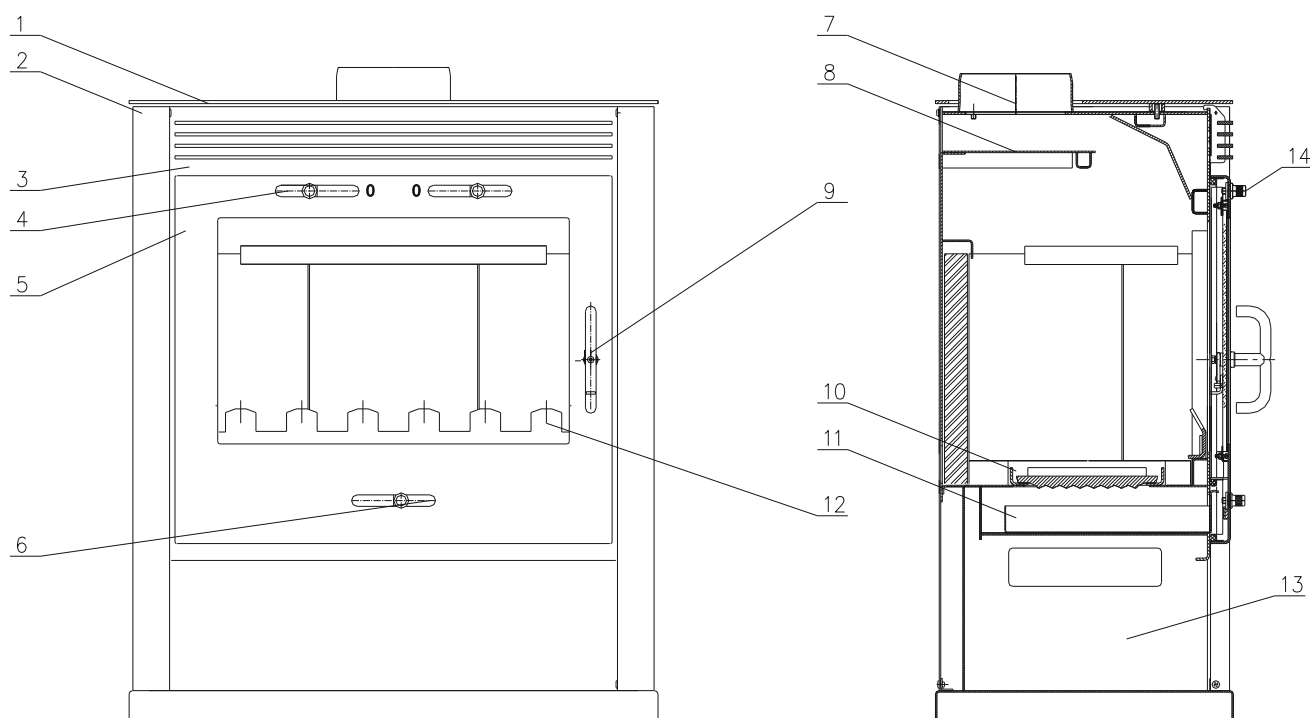

Fig.1.
- Primary and secondary air are controlled by handle (Fig 1, Pos. 4). Closed is position "0", and open at maximum at the opposite side
- Primary air and the combustion rate is adjusted by regulator (Fig. 1, Pos. 6). During initial ignition the regulator have to be in open position and after the fire is stable the regulator must be closed (Table 2).
- Secondary air is used for complete burning of the fuel and helps to prevent accumulating of dust on the glass. Secondary air is adjusted by regulator (Fig.1, Pos.13). Position of the regulator must be open in accordance with Table 2.